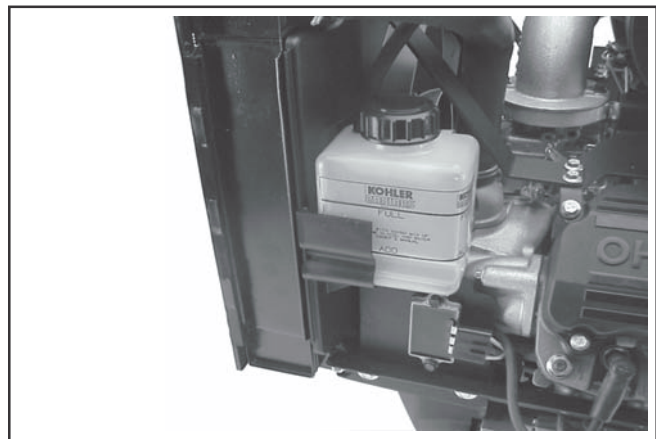

Figure 9. Overflow Reservoir Location.
The coolant level should be checked at the overflow reservoir, located within the formed supports of the fan shroud. See Figure 9.
3. Fill the radiator with the coolant mixture. Allow coolant to drain into the lower areas. Fill the overflow reservoir to a level between the "FULL" and "ADD" marks. See Figure 9. Reinstall the radiator and reservoir caps.
5. Recheck the coolant level in the reservoir. Coolant level should be between the "FULL" and "ADD" marks. Add coolant to reservoir if required. See Figure 9.